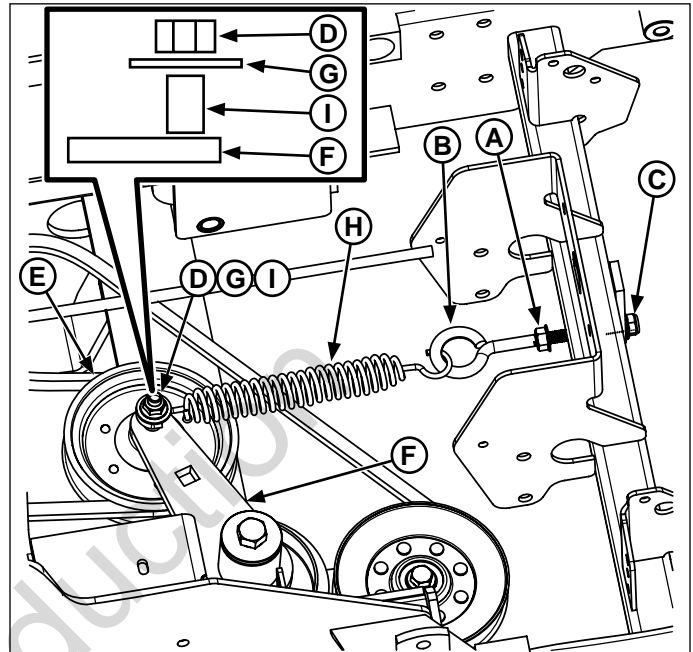
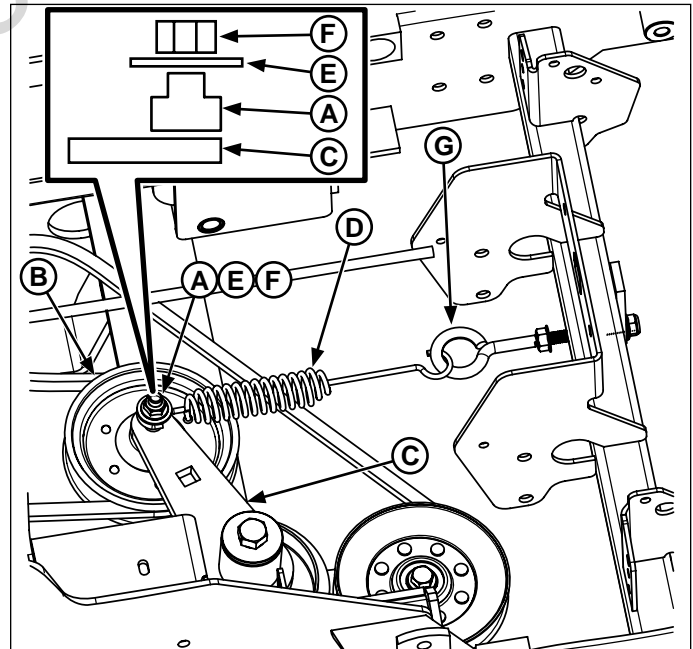

Figure 1. Old Drive Tensioner Setup
Figure 2. New Drive Tensioner Setup
3. Loosen the jam nut (A, Figure 1) that locks the position of the eyebolt (B) in the frame.
4. Carefully loosen and remove the nylock flange nut (C) that secures the eyebolt to the frame. Discard this nylock nut.
5. Loosen and remove the nylock flange nut (D) that secures the idler pulley (E) to the idler arm (F). Remove the 3/8 washer (G), tensioner spring (H), and spacer (I). Discard the nylock flange nut and the spacer.
6. Install the new stepped spacer (A, Figure 2) onto the bolt that secures the idler pulley (B) to the idler arm (C). It should be orientated so that the larger end of the spacer is facing down.
7. Install the spring hook of the tensioner spring (D) onto the smaller end of the stepped spacer. The spring should be positioned so that the large base of the